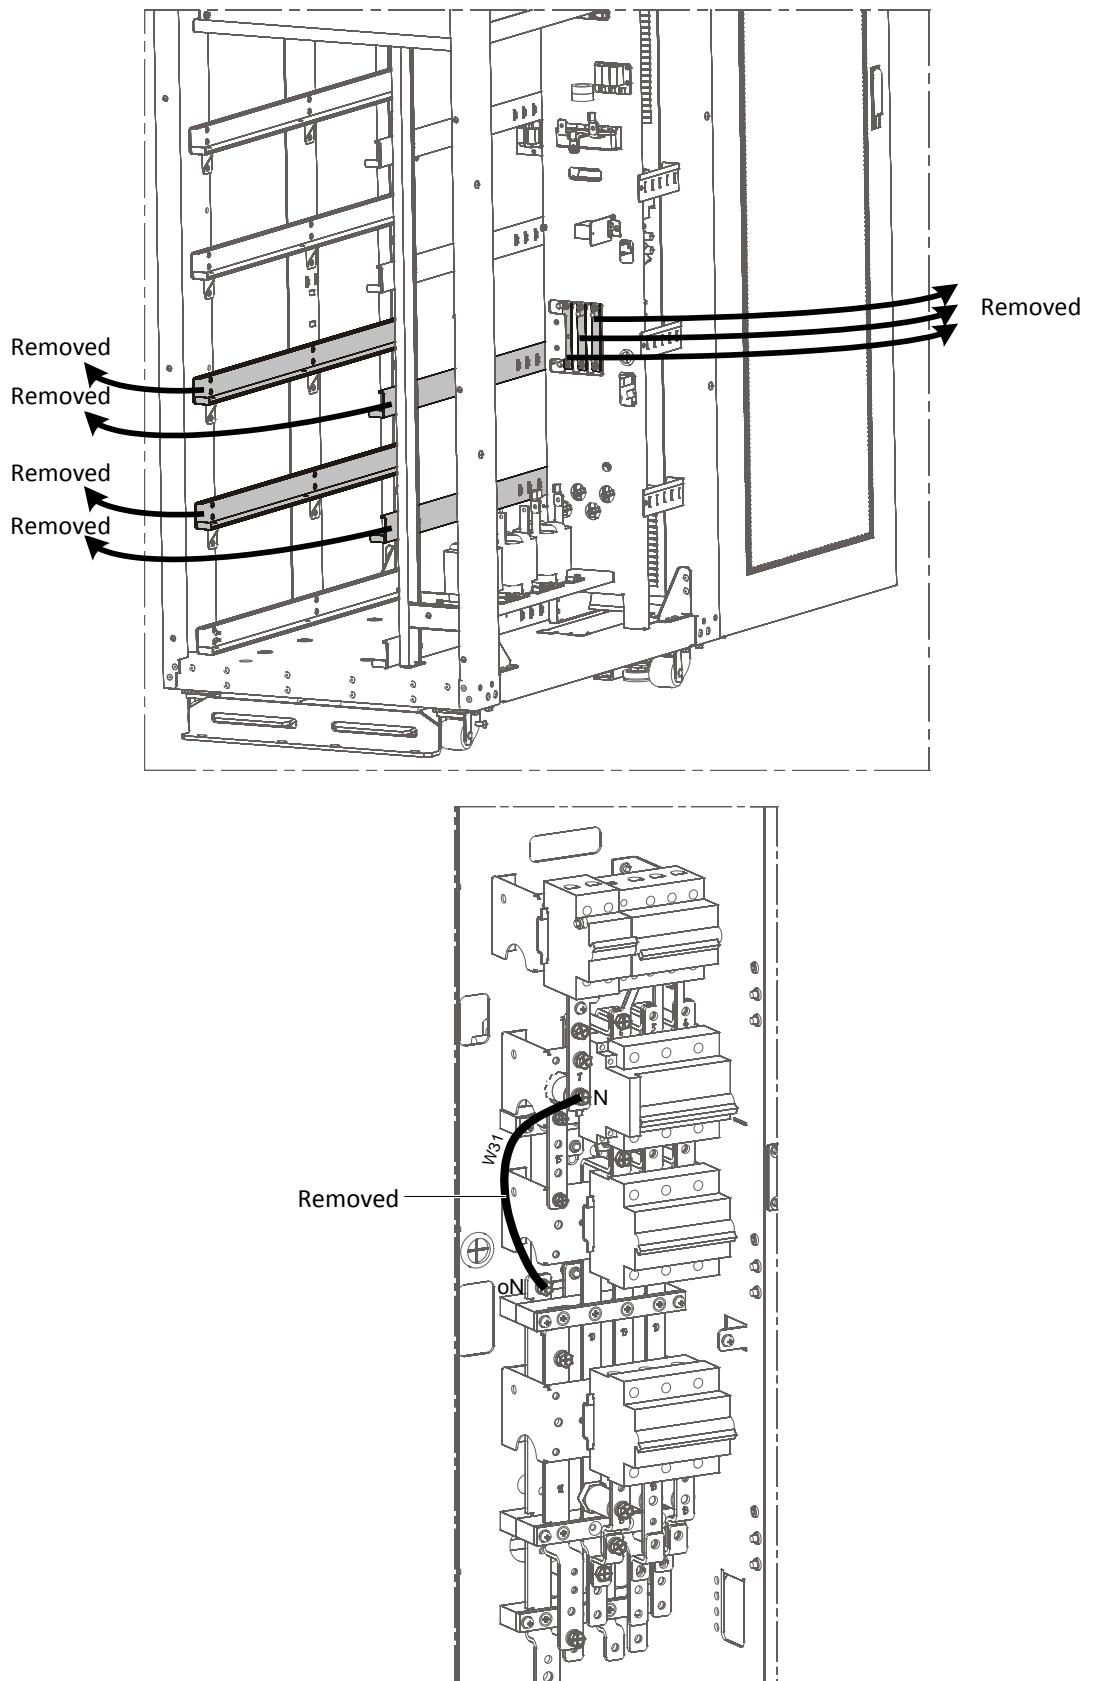

Figure 8-26 Removing battery tray beams, shorting copper bars and cable W31
- a) According to Figure 8-26, remove the four battery tray beams, three shorting copper bars (number 51) and cable W31.